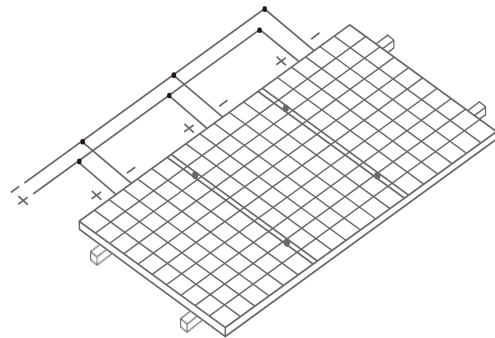

Figure 21 Connection in parallel
- When connected in parallel, the output current of the whole string of modules is equal to the sum of the current of each branch module or module string (the parallel connection mode is shown in Figure 21). Each string of modules shall be equipped with a fuse. The reference formula for the maximum number of modules in parallel connection: maximum protective current/(1.25 * short-circuit current). Please refer to the national or regional or local specifications for details.